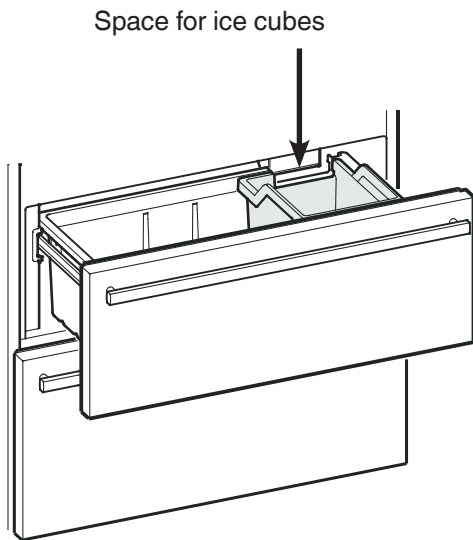

Figure 16
The upper drawer is divided by a partition wall for storing ice cubes in the right part of the drawer (**Figure 16**).
If you need more ice cube storage space, pull up the partition wall and refit on the adjacent rail (**Figure 16**).
- Remove glass shelves as shown in **Figure 16**.